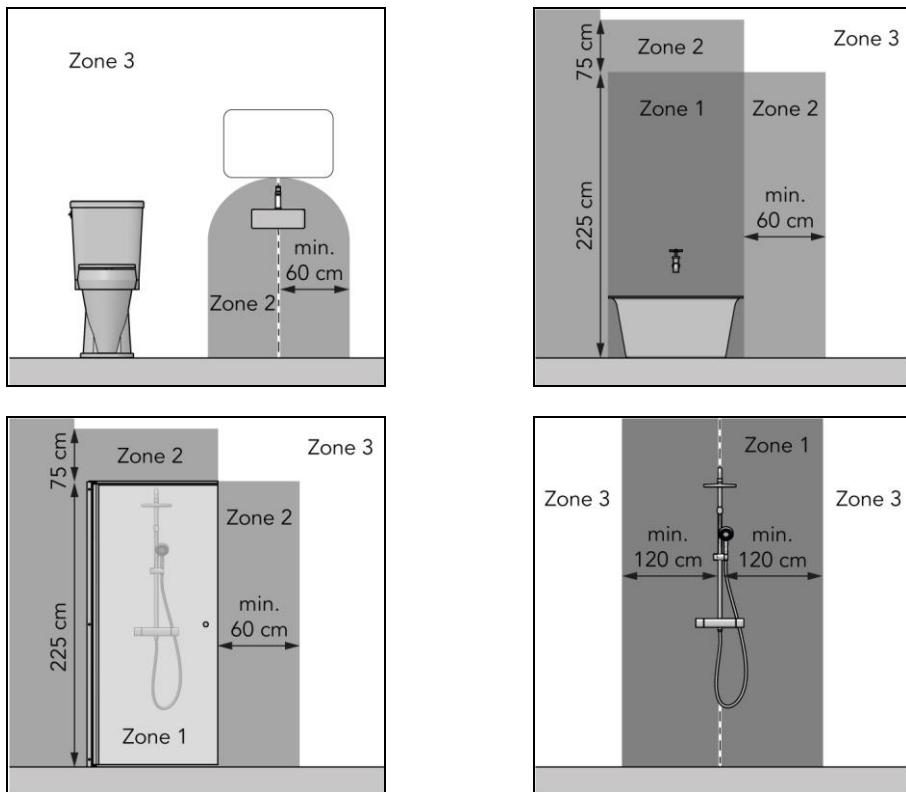
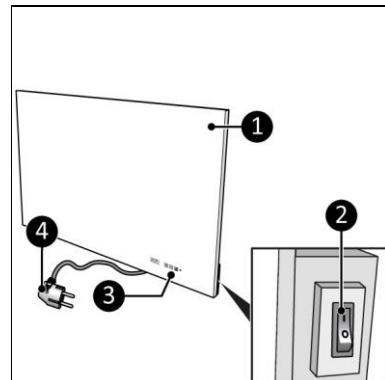

Figure 1
Figure 4
- in zone 3 of a toilet room or bathroom with a bath, shower with screen and shower without screen (Figure 1);
The Sani Mirror Wi-Fi (Figure 4) is an easy-to-use electric bathroom heater for use in zone 3 of the bathroom (Figure 1). The Sani Wi-Fi can be used with the Eurom Smart App.